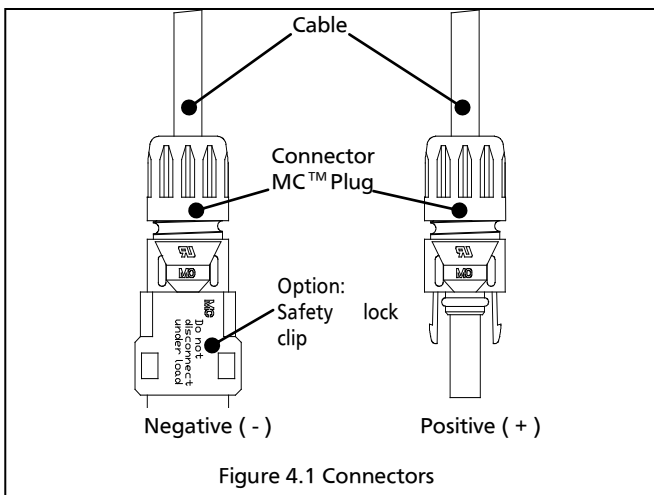

Figure 4.1 Connectors
- A junction box as a terminal enclosure is equipped for electrical connections. VBHNxxxSA17 is equipped with MCTM plugs as a terminal enclosure. Use these MCTM plugs for electrical connections (see Figure 4.1).